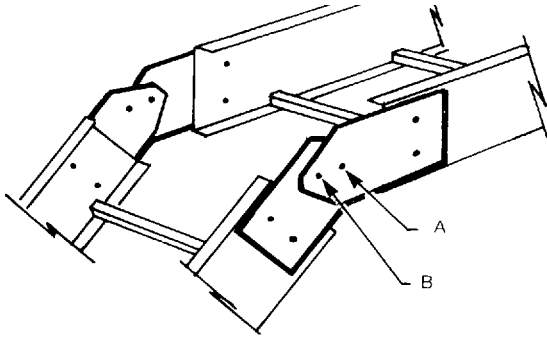

Figure 4.14A
4.3.3 Vertical Adjustable Splice Plates (See Figures 4.14A and 4.14B.)
- a. Position splice halves so that offsets adjust for material thickness and fasten with nut and bolt using hole (A).
- c. Drill to complete hole (B). Figure 4.14A only.